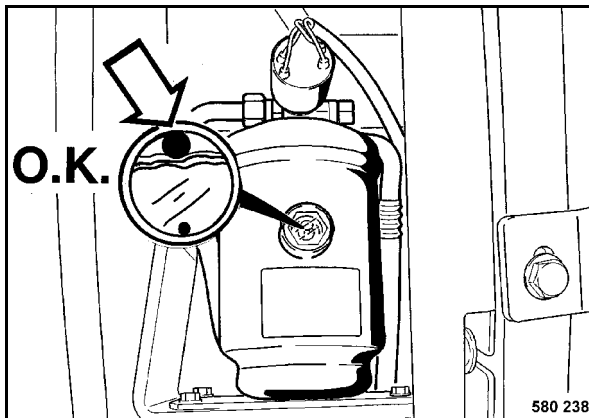

Fig. 118
- Check whether the white float (Fig. 118) inside the inspection glass of the drier/collector unit floats right at the top.